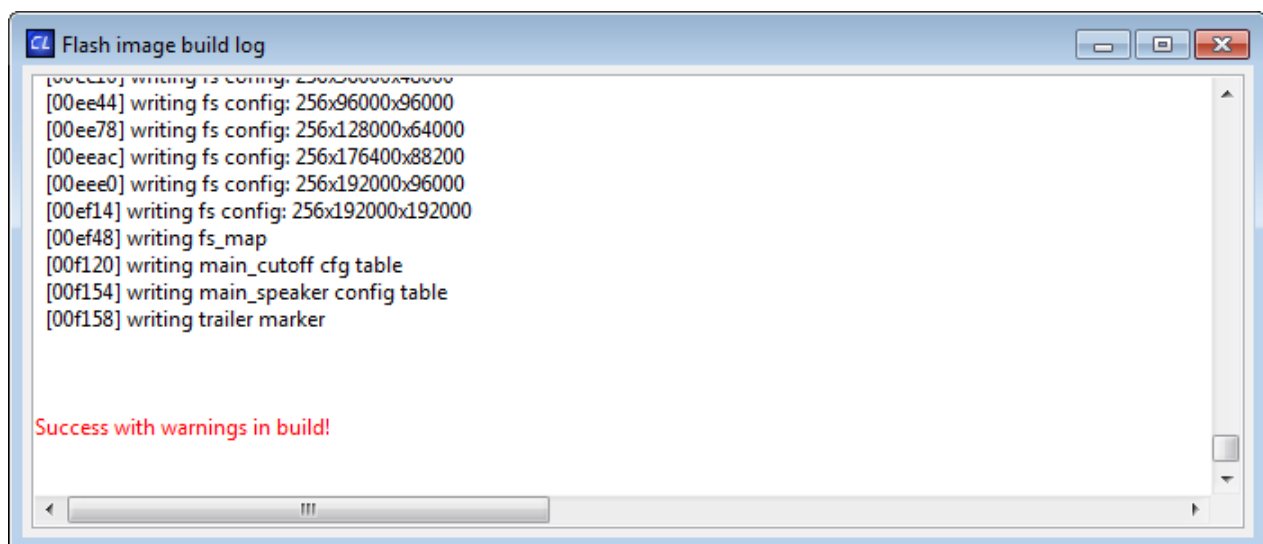

Figure 9-2. Flash Image Build Log
3. Wait for the image to finish building as shown in Figure 9-2.